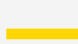

Figure 1: Schematic of the gas network in Northern Ireland
Figure 1 shows graphically each of these distribution zones as well as the high-pressure transmission networks of GNI (UK) and MEL shown in yellow and green respectively.